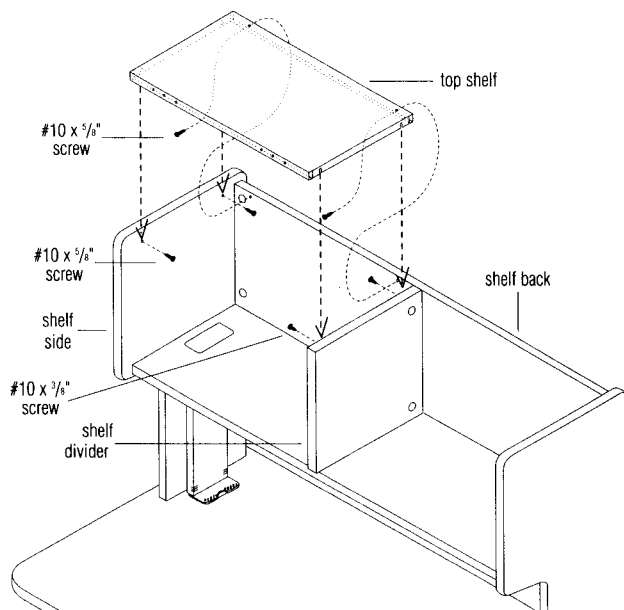

Figure 5
15. Determine which side of the cabinet the top shelf and flipper door will be installed to. At that side of the cabinet, screw two #10 x 3/8" screws halfway into the shelf side. Then, screw two #10 x 3/8" screws halfway into the pre-drilled holes in the shelf divider. This allows for the installation of the top shelf (Figure 5).
16. The sides of the top shelf have slots that fit into screws in the shelf side and divider (same installation method as shelf bottom). Slide the top shelf down into position between the shelf side and divider, engaging the screws into the slots. Do not tighten. Insert two #10 x 5/8" screws through the back edge of the top shelf and into the pre-drilled holes in the shelf back. Tighten all screws to secure top shelf (Figure 5).